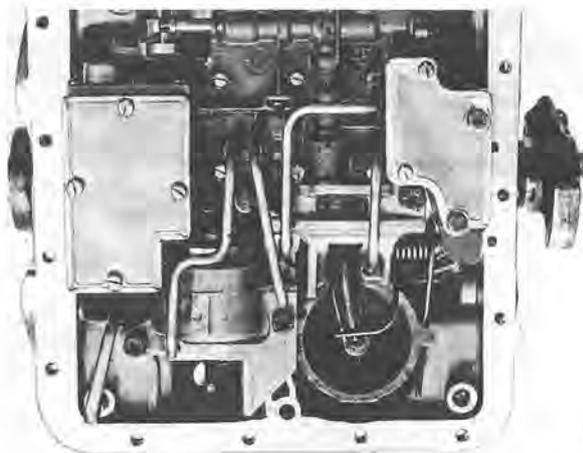
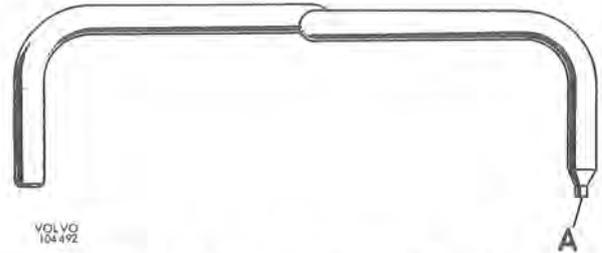

Fig. 4-119. Retention of front and rear pump strainers
Fig. 4-120. Oil tube for valve bodies system, vehicle with R-H drive
28. Fit the four oil tubes according to Fig. 4-119. Note that the oil tube for releasing the front control cylinder has a constriction (A, Fig. 4-120) on vehicles with a right-hand drive. This end is fitted in the valve bodies system.